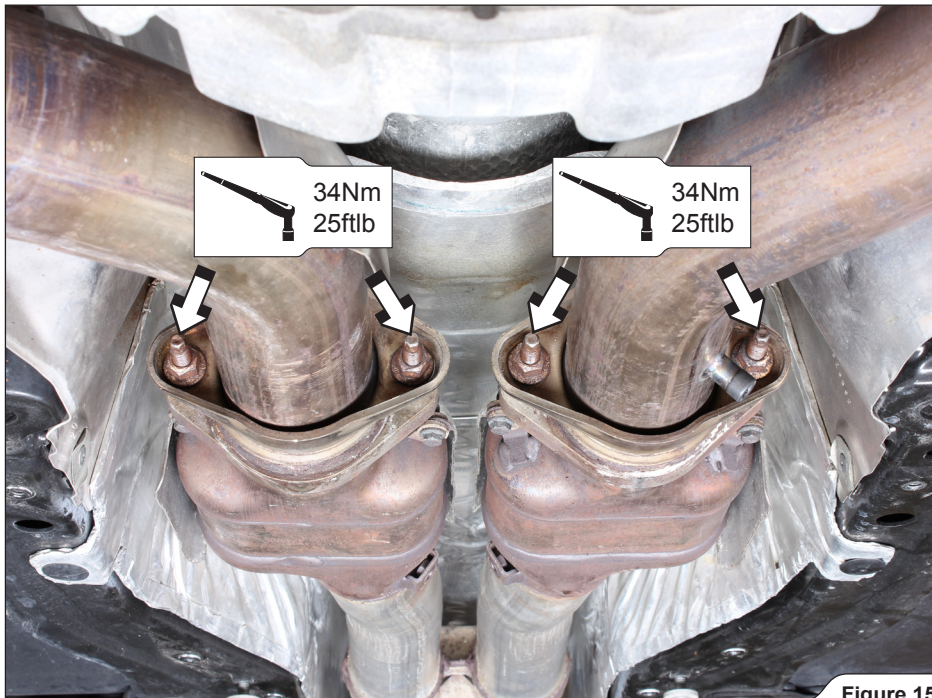

Figure 15
1. Install the stock link pips back onto the vehicle and tighten the flanges' nuts; do not bolt the link pipes' rubber bracket onto the transmission yet (**Figure 15**).